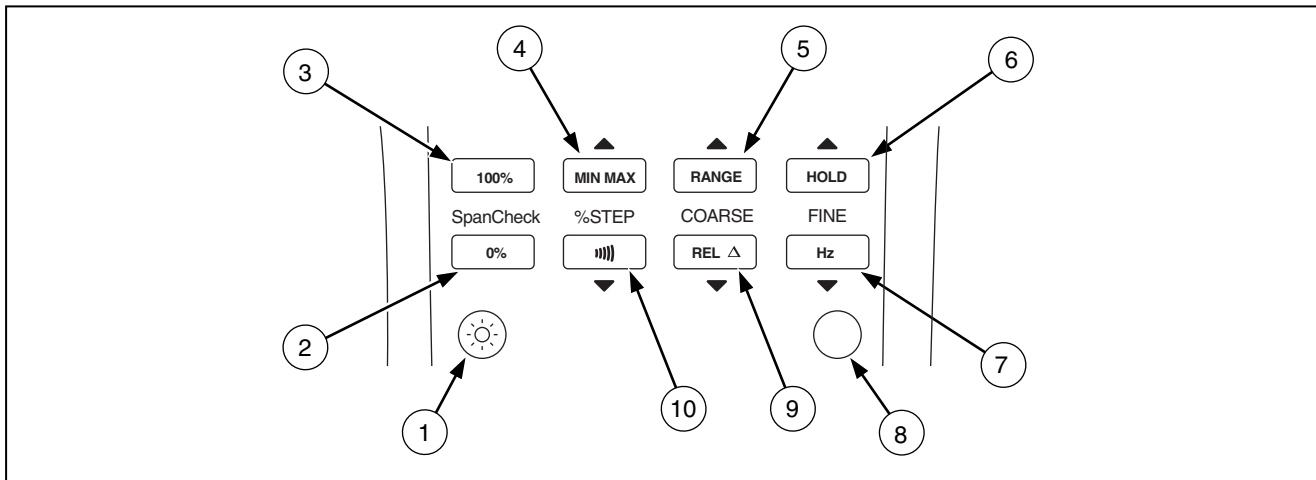

Figure 5. Pushbuttons
- Figure 5 and Table 6 describe the functions of the pushbuttons.